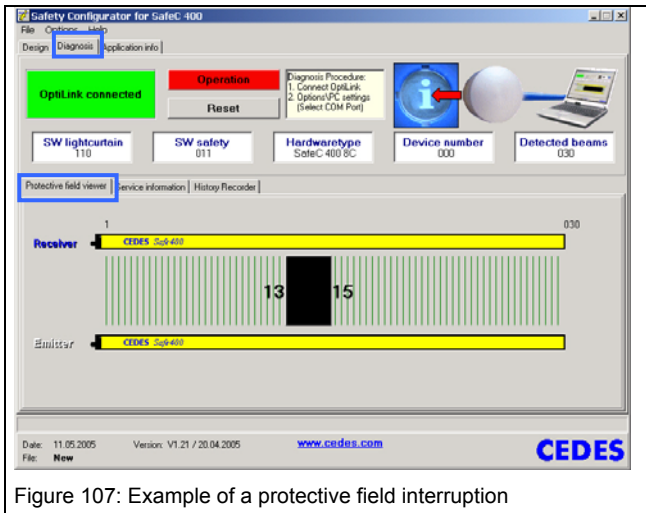
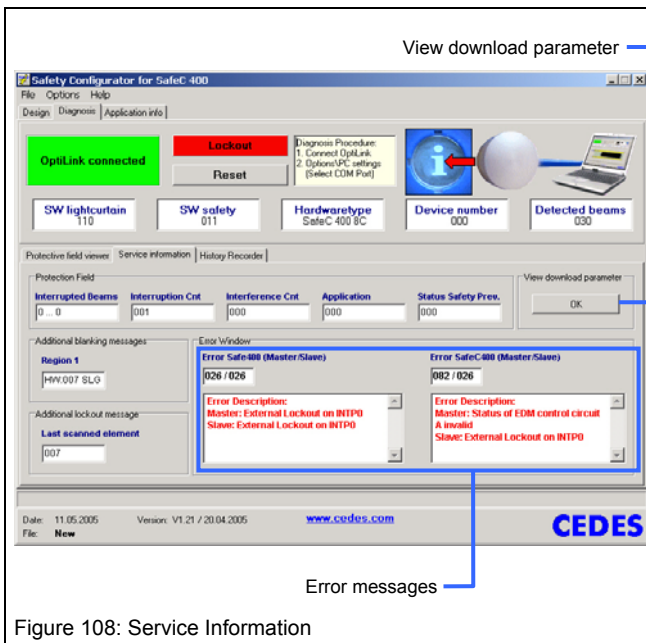

Figure 107: Example of a protective field interruption
Figure 108: Service Information
2. If not already done, start the program Configuration Tool and choose the "Diagnosis" tab (Figure 107 and Figure 108).